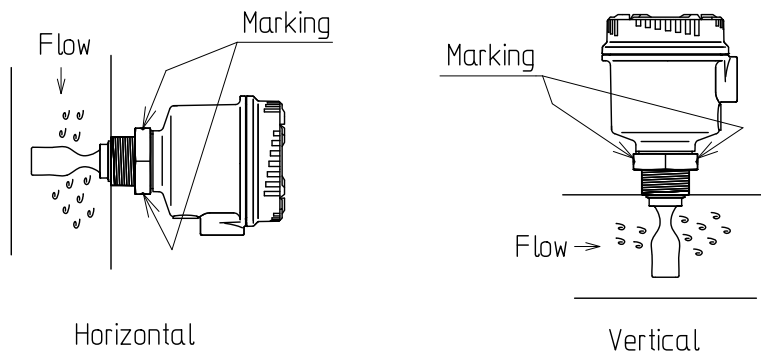
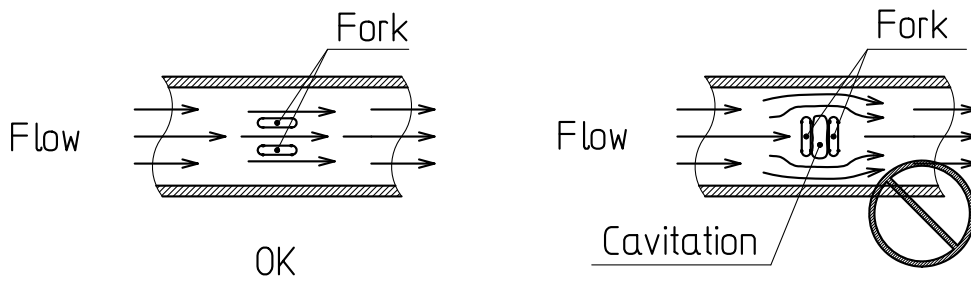

Fig. 5-12
Fig. 5-13
- (2) On piping, mount the sensor as shown in Fig. 5-12. Incorrectly mounted sensor may cause cavitation between the tines (Fig. 5-13) and thus faulty operation.